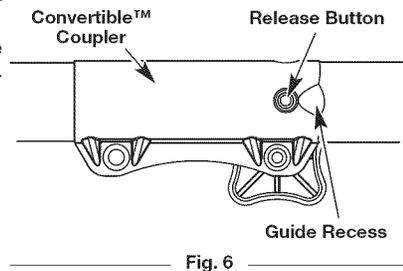

Fig. 6
**NOTE:** Aligning the release button with the guide recess will help installation (Fig. 6).
2. Press and hold the release button (Fig. 6).